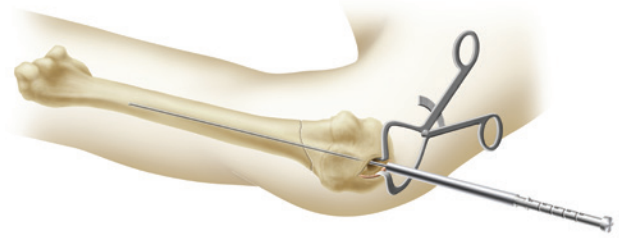

Figure 10
2. Slide the Ruler (71751126) over the proximal end of the 2.0mm Graduated Ball Tip Guide Rod and advance the open end of the Ruler to the location where the proximal portion of the implant will be seated, just below the articular surface of the proximal humerus (Figure 10).